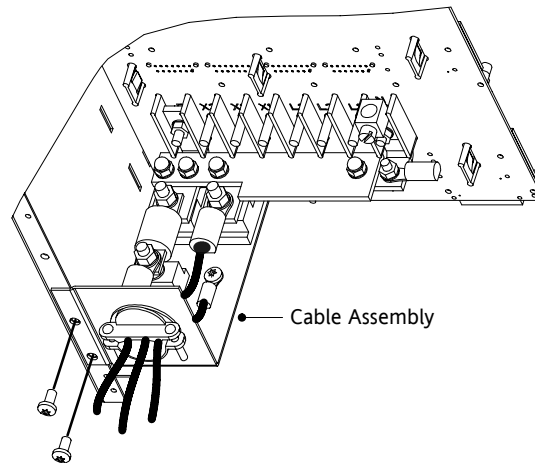

Figure 45. Battery Cable Assembly Installation
- 12.** Align the screw holes of the cable assembly's entry plate with holes on the cabinet side panel as shown in Figure 45. Secure the entry plate with screws supplied with the cable assembly.
- 13.** If the battery cable will be installed in customer-supplied flexible or other conduit (as required by local wiring codes), loosen the two screws holding the strain-relief clamp shown in Figure 45. Remove the clamp by loosening the star nut on the inside of the entry plate, leaving the nut in place. Replace the clamp with a panel-to-conduit feedthrough and secure it with the star nut.